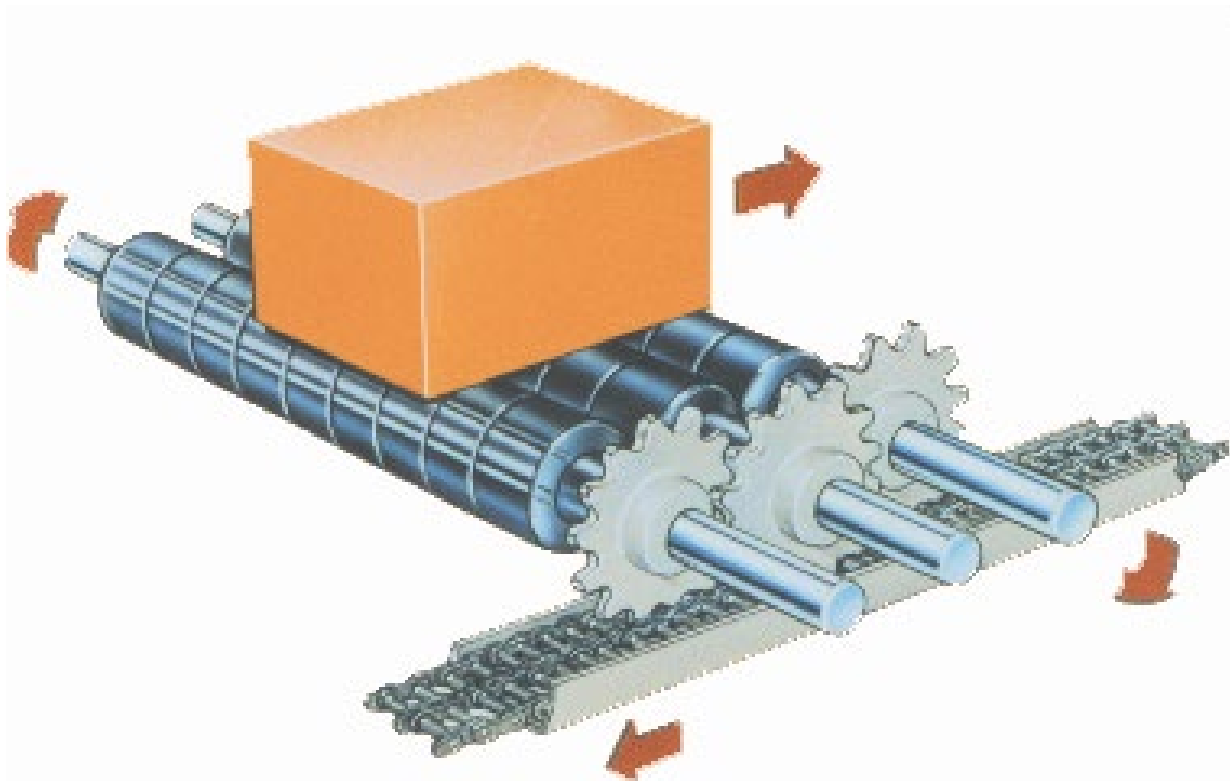

Figure 1
**Figure 1** below shows a product resting on a Slip-Torque® roller surface. The segmented rollers form a string that is mounted on a roller shaft, powered by a sprocket and a 25-2 chain. When the roller shaft is turning the roller rotate and transport the product.